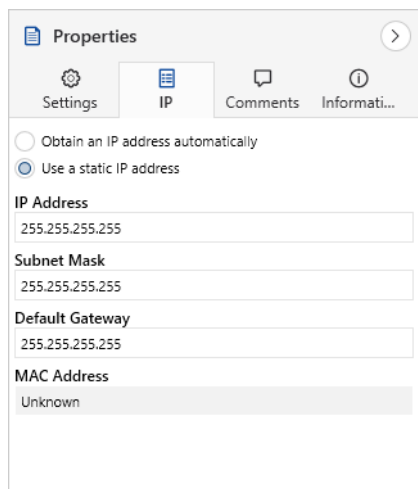

Figure 21: IP settings
3. You will find the available selection options in figure 21 and table 10, "Settings for manual IP address entry or for receiving automatically," on page 32.